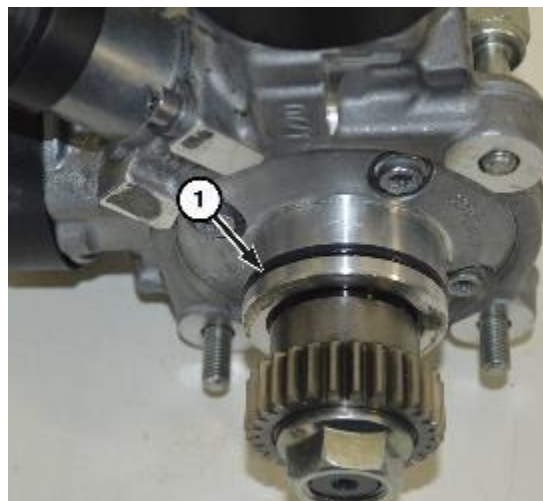

Figure 29 – HPFP O-ring
32. Install a **NEW** O-ring seal (1) to the **NEW** fuel injection pump (Figure 29).
59. Install the fuel injector return line (1) to the main low pressure return line (2) (Figure 29).